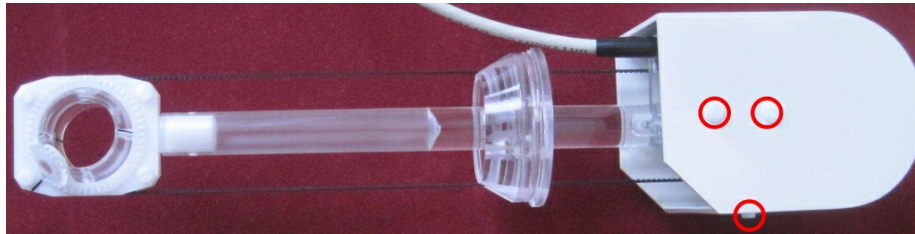

Figure 9: Removing of the top cover of the rotator
2. Unscrew plastic screws marked by red circles on Fig. 9 and remove the top cover of the rotator.